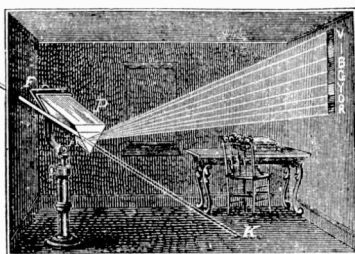

FIG. 48. SEPARATION OF LIGHT COLORS BY A PRISM.
The different colors in the white light of the sun or other highly heated solid cannot be detected by the unassisted eye, since they produce the sensation of white only. If, however, a narrow slice of white light, such as that of the sun, is permitted to enter a dark room through a narrow rectangular slot in a shutter, shown in Fig. 48 ("Elements of Natural Philosophy," Houston), falling on the floor at (K), it will produce a bright spot of light of approximately the dimensions of the opening. If, now, a prism